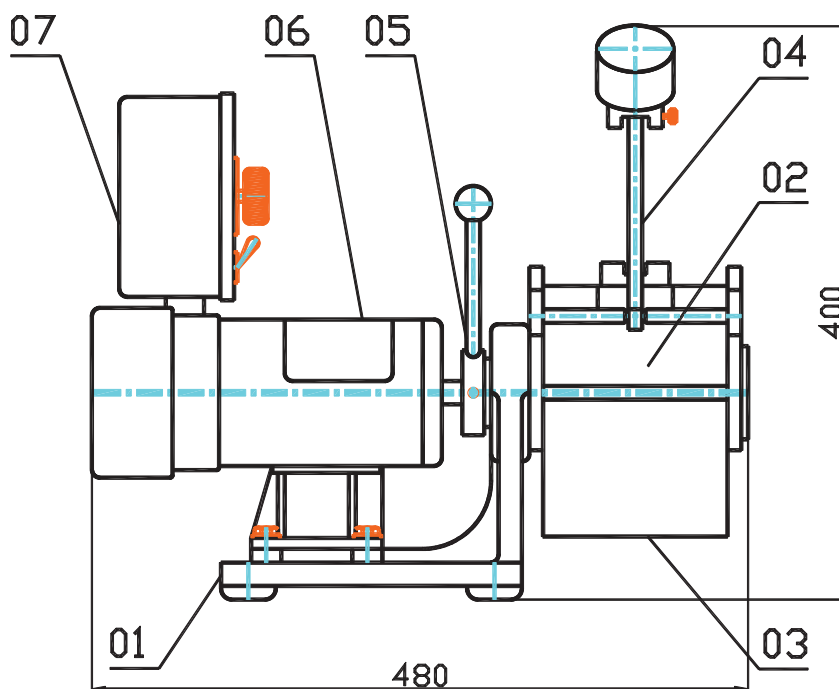

Figure 2.1
**II. Structure** The huller consists of the following components: (Figure 2.1)